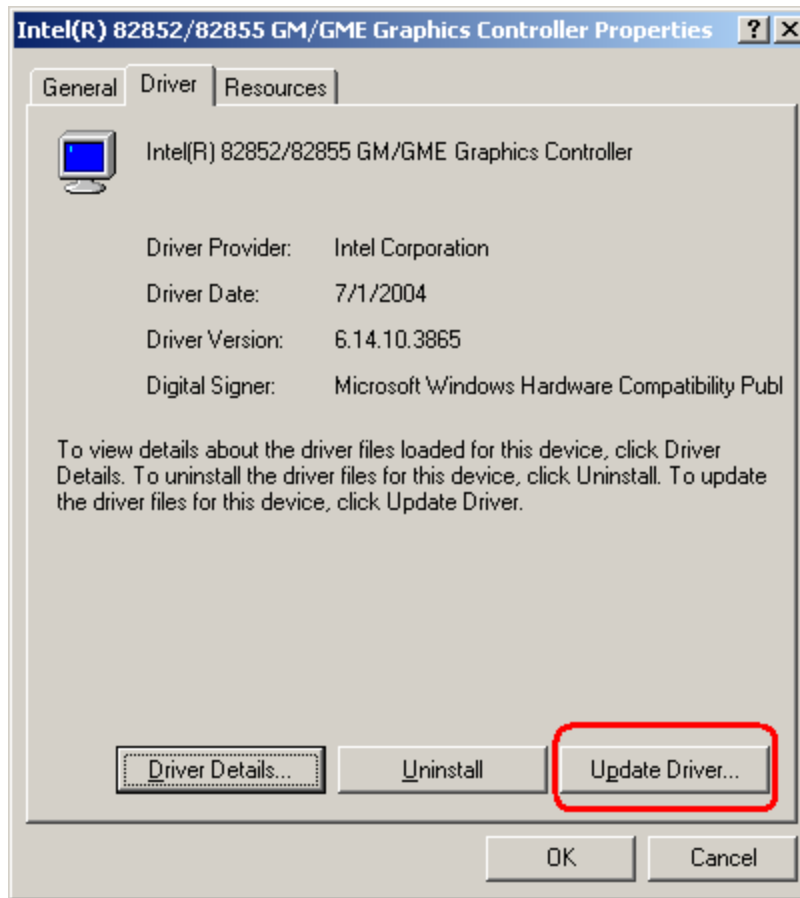

Figure 7-8: Update Driver
**Step 6:** From the **Driver** tab of the **Properties** window, click **Update Driver** (Figure 7-8) or, click **Reinstall Driver** if **Update Driver** is not seen.